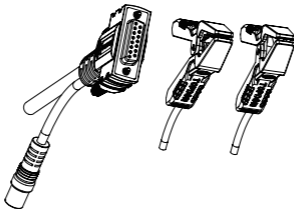

Figure 2.1.5
10. Battery Test Cable with DB15 Female Connector & Battery Clamps. (See Figure 2.1.5)